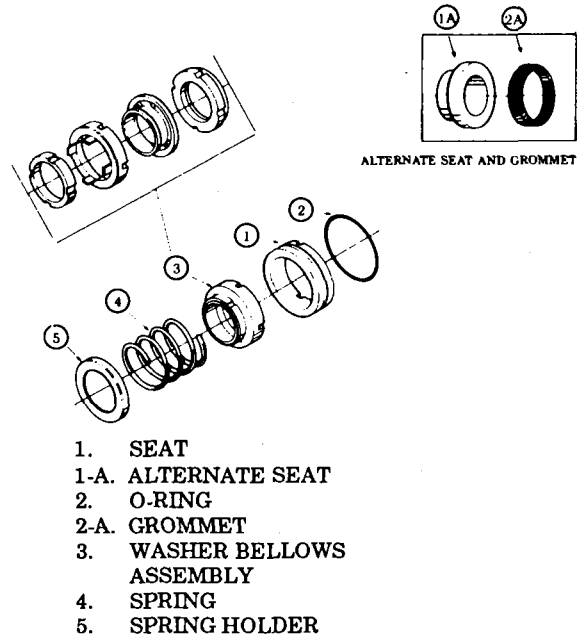

Figure 4. Crane Type 21 Mechanical Seal
Crane 21 Mechanical Seal: Slide mechanical seal rotating parts (3 through 5, Figure 4) on power rotor (013) with spring holder (5, Figure 4) next to shim (043).